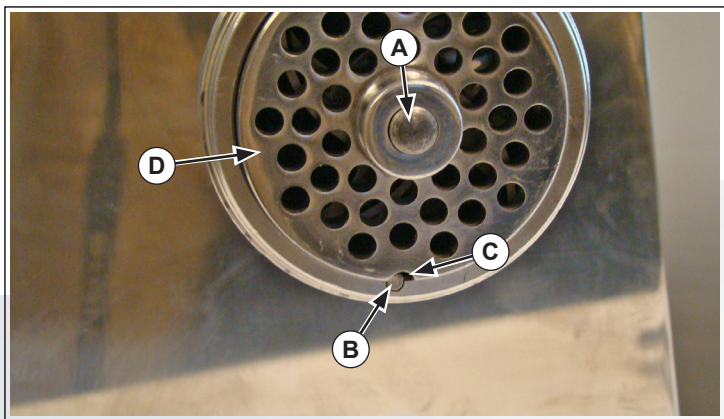

Figure 6. Grinder Plate, Cutout, Locating Pin and Blade Shaft
10. Place the grinder plate (D) onto the blade shaft (A) so that the cutout (C) slides over the locating pin (B). See Figure 6.
3. Remove the grinder plate (D) from the blade shaft (A). See Figure 6.